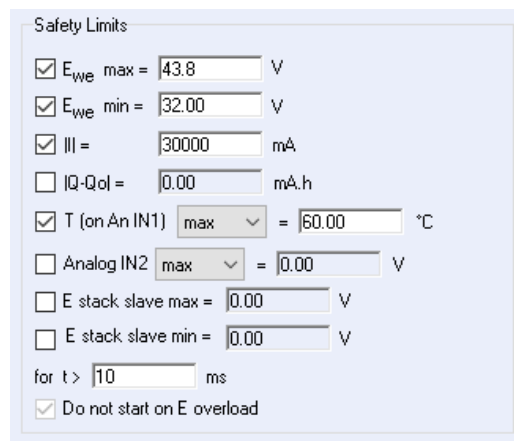

Figure 9: Safety limits in Advanced Settings.
- The safety limit in EC-Lab® has to be set correctly (Fig. 9). It is highly recommended that you set the maximum voltage range, maximum current and maximum temperature.